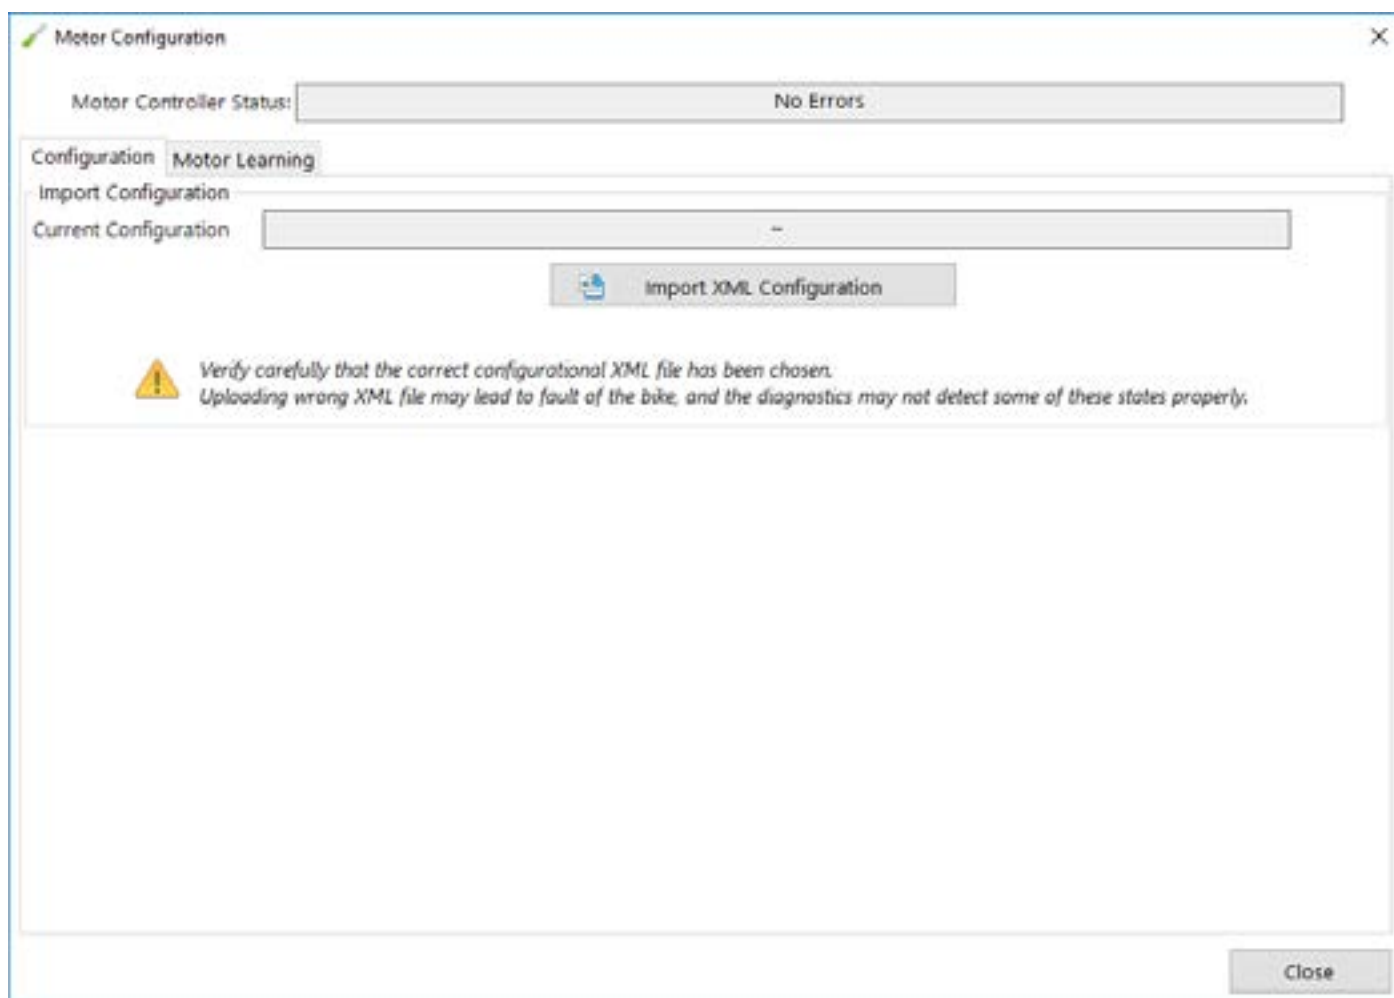

Figure 3.37 Configuration – XML file import
This tab enables checking or manual importing of the XML configuration file (Fig. 3.37). This file contains the bike settings and must be imported for a new control unit, or if it is necessary to restore factory default settings. Only use this function if the computer is offline. Contact the helpdesk of the distributor in your country or directly BIKE FUN International service center if you are unsure of the correct XML configuration file.
1. Click on “Import XML Configuration” (Fig. 3.37).